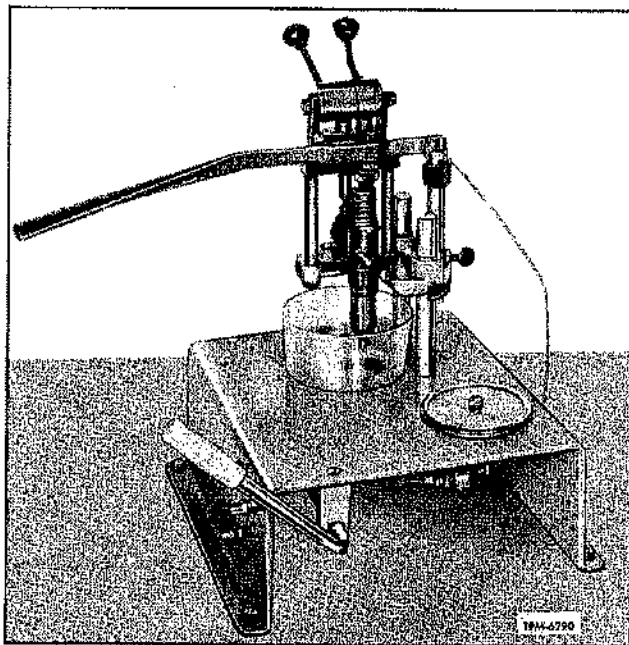

Figure 12—Injector High Pressure Test
3. With injector rack in FULL FUEL position and popping handle locked in position by means of the handle lock (fig. 12), operate pump handle to build up and maintain pressure.